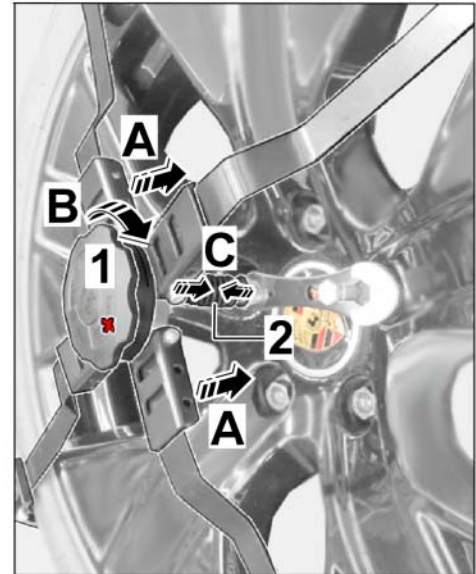

Figure 10
2.3.2 Press knob on snow chain onto the rear wheel (⇒ *Figure 10-A*).
At the same time, turn the knob as far as it will go to the right (plus "+" sign ⇒ *Figure 10-B*) until the bellows is pressed together (⇒ *Figure 10-C*).